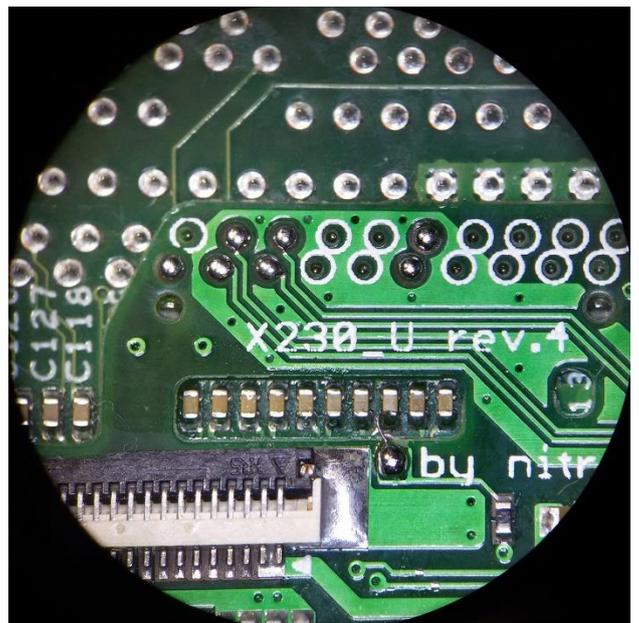

Figure 13. Cleaning the area
7. Once the sense wire is soldered, remove the remaining piece and clean the area from flux (figure 13).